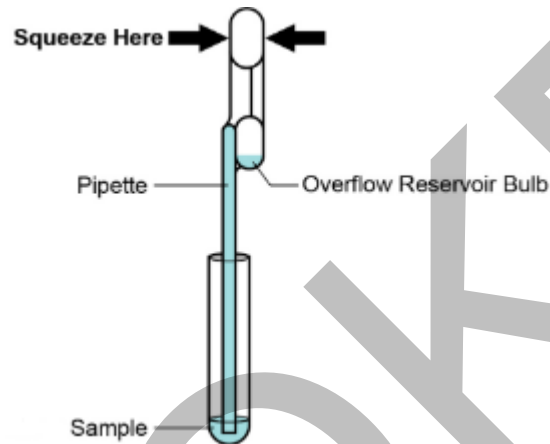

Figure 20. Transfer Pipette
12. Squeeze the top bulb of the transfer pipette **completely** and then place the pipette tip in the specimen transport tube (see Figure 20).
13. Release the top bulb of the pipette to fill the pipette before removing from the tube. After filling pipette, excess sample can be seen in the overflow reservoir bulb of the pipette (see Figure 20). Check that the pipette does not contain bubbles.